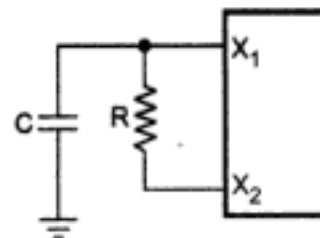

Fig. 1.7 RC Circuit
**RC Tuned Circuit :** Fig. 1.7 shows the RC tuned circuit. The output frequency of this circuit is also not exactly stable. But this circuit has an advantage that its component cost is less.